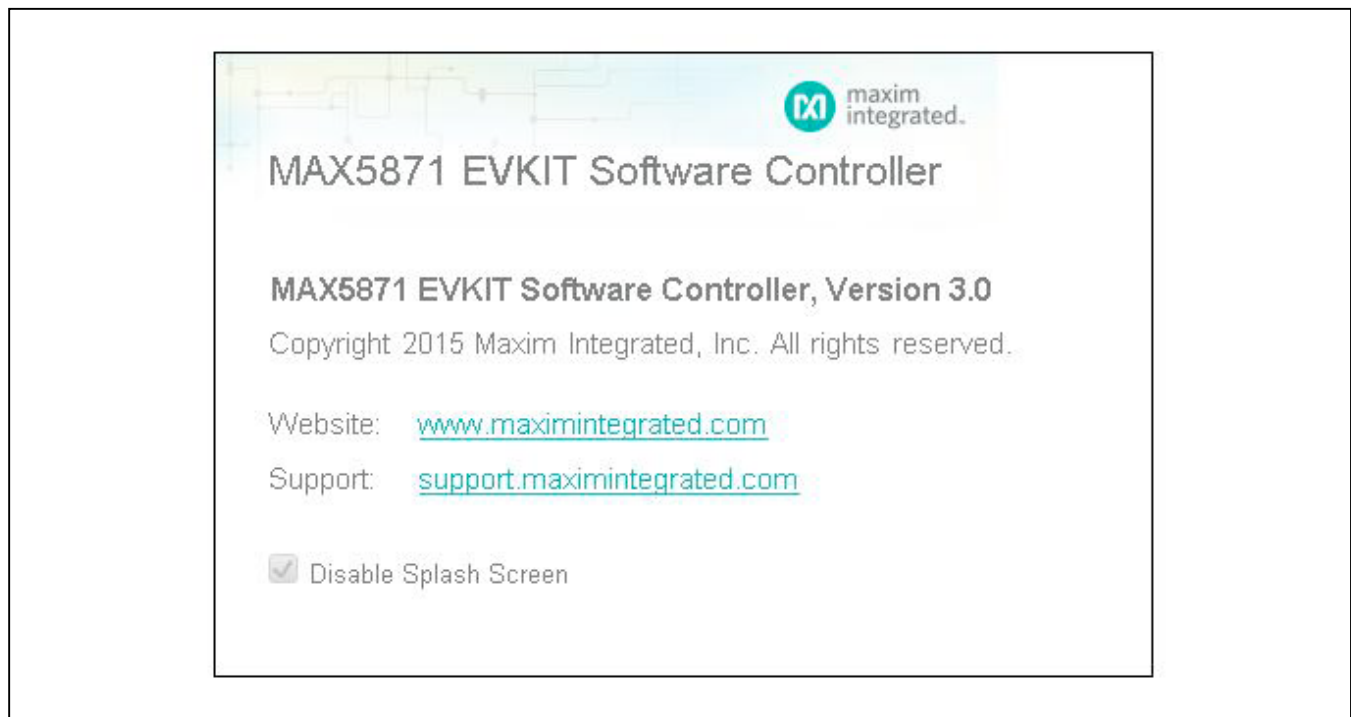
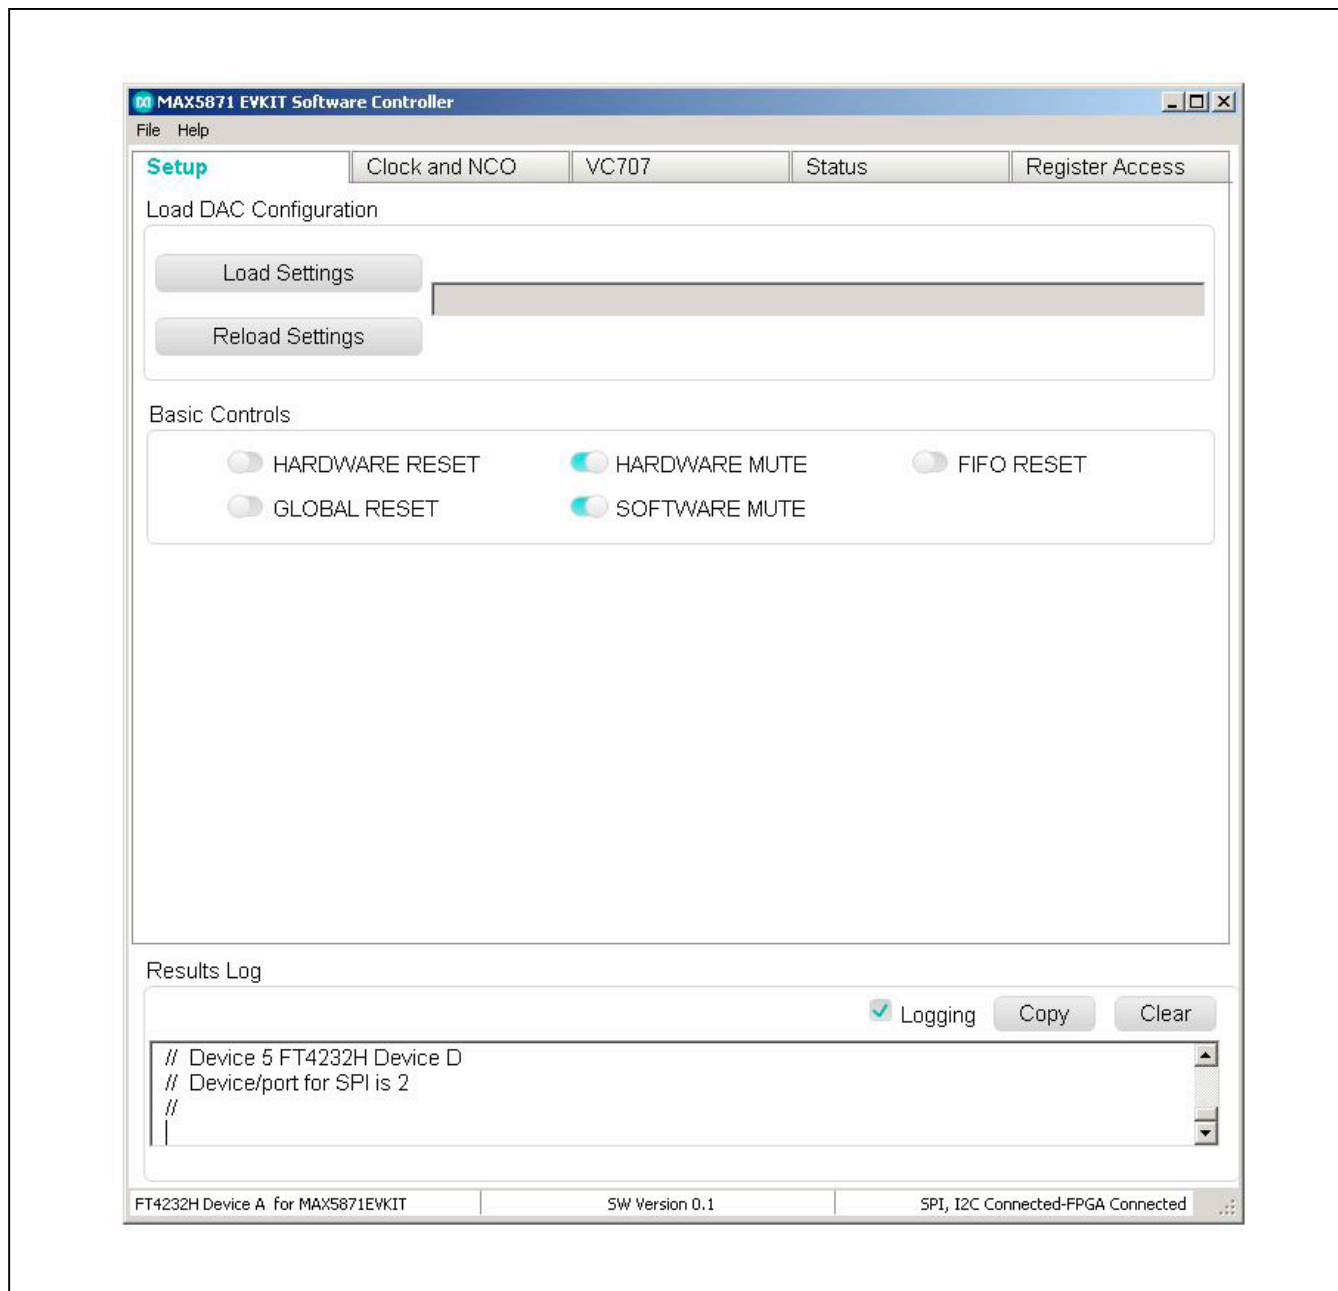

Figure 4. Splash Screen
Figure 5. Main GUI Startup
- a. Verify that the lower-left corner of the app states either “Connected” or “FT4232H Device A for MAX5871EVKIT”; Indicates the GUI is connected to the MAX5871 EV kit. (Figure 5)
- b. Verify lower-right corner of the app states “SPI, I2C connected-FPGA Connected” indicating these specific ports have been established. (Figure 5)
The EV kit software controller GUI application displays a splash screen on initial startup, as shown in Figure 4. The splash screen is only visible while the application connects to the EV Kit USB interface and the UART on the VC707. The main application is displayed after these connections are made, as shown in Figure 5. Note that the EV kit connection status is reported in the lower left corner of the GUI. The lower-right corner reports the SPI and I2C/SMBus along with the FPGA connections.
The Setup tab (Figure 5) allows the user to load a MAX5871 device configuration file. The configuration contains a specific sequence of SPI register writes required for proper operation of the desired operating mode. Several sample configuration files are included with the software installation and are stored in the